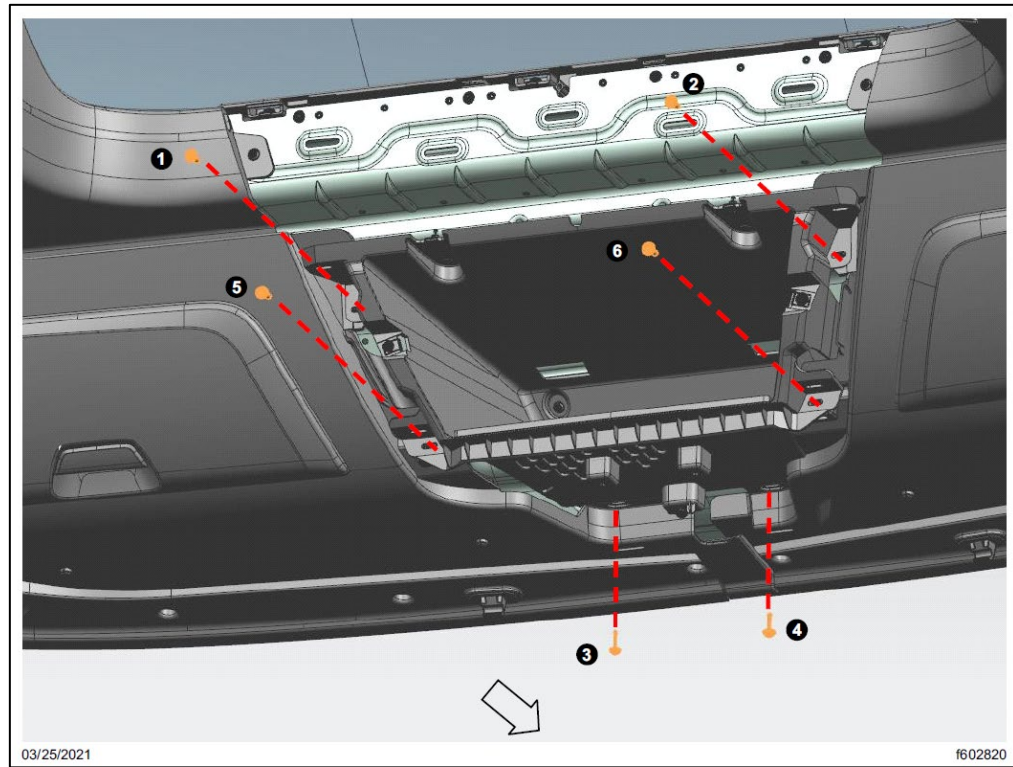

Fig. 63, Attach the Center Overhead Storage Bin to the LH and RH side Storage Cabinets
- 14.2. Install the six fasteners that attach the center overhead storage bin to the LH side and RH side overhead storage assemblies. Tighten the fasteners 5 to 7 lbf.ft (6 to 9 N.m) as per the sequence shown in Fig. 63.